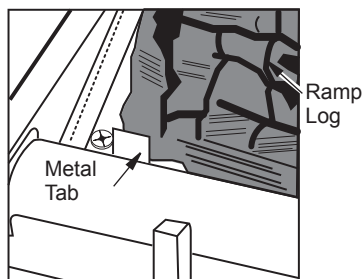

Figure 24 - Installing Log Set
2. The log must sit flat on the black sheet metal and behind the left metal tab as shown in Figure 24.